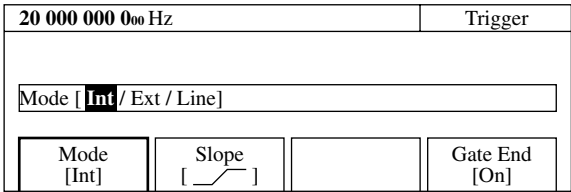

Fig. 4-23 Trigger Selection Screen
- (1) Menu F1 : Selects whether to use one of the available triggers: internal trigger (Int), external trigger (Ext), or line trigger (Line). Selecting menu F1 displays the trigger selection screen shown in Fig. 4.23.